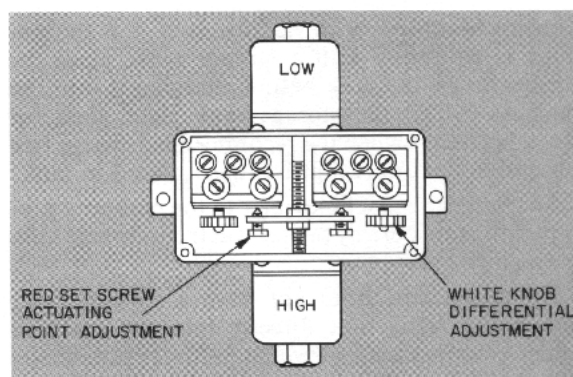

Fig. 4 — Typical Oil Pressure Switch
3. With ohmmeter across common and normally open contacts, turn red setscrew (Fig. 4) until contacts just close.
5. With ohmmeter across common and normally open contacts, turn white knob (Fig. 4) until contacts just close.